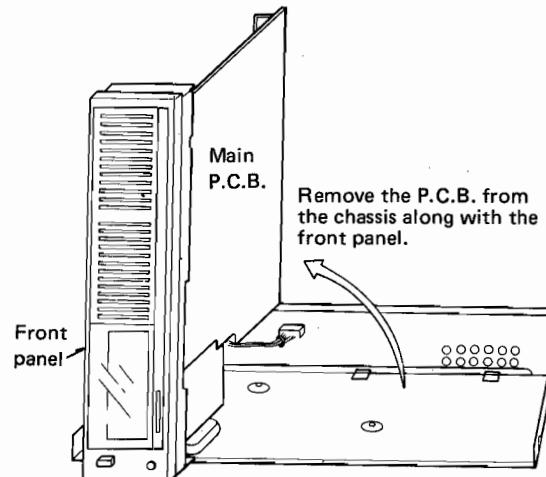

Fig. 6
6. Slightly draw out the front panel toward you along with the P.C.B., then raise the chassis as in **Fig. 6** and check.